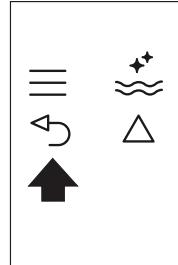

Fig. 25
- ▶ Press the icon **↶** (B6) (Fig. 25) twice to exit the menu.